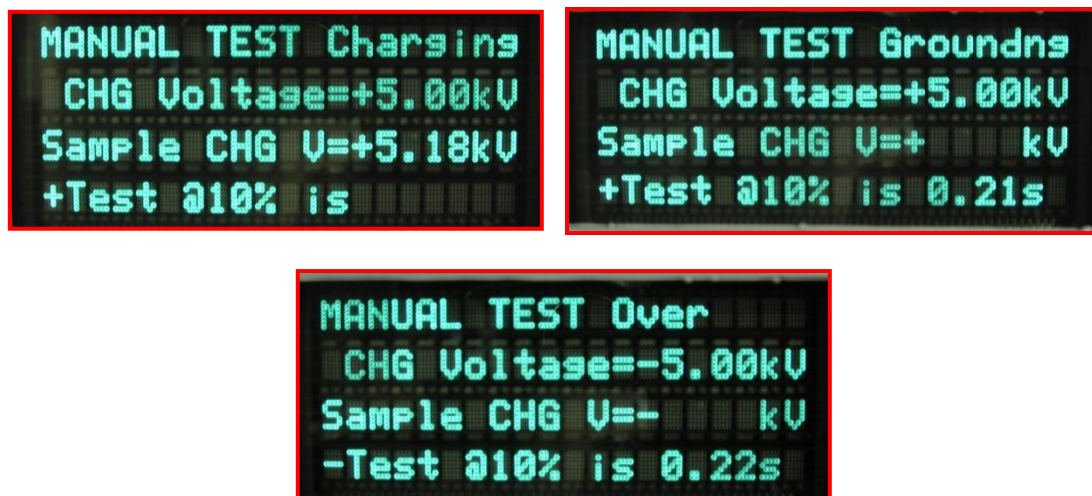

Figure 2.2-6: **MAN**ual mode decay time measurement
**MAN mode:** A single decay time measurement is made and displayed each time the Decay Time key is depressed as shown in Figure 2.2-6.